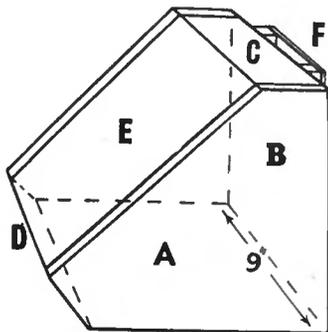

Fig. 3—Sections.
The holder for the small shovel is at the back (F). Make it as in Fig. 3, and attach it to the scuttle with  $1\frac{1}{4}$ in. screws. Use 1in.